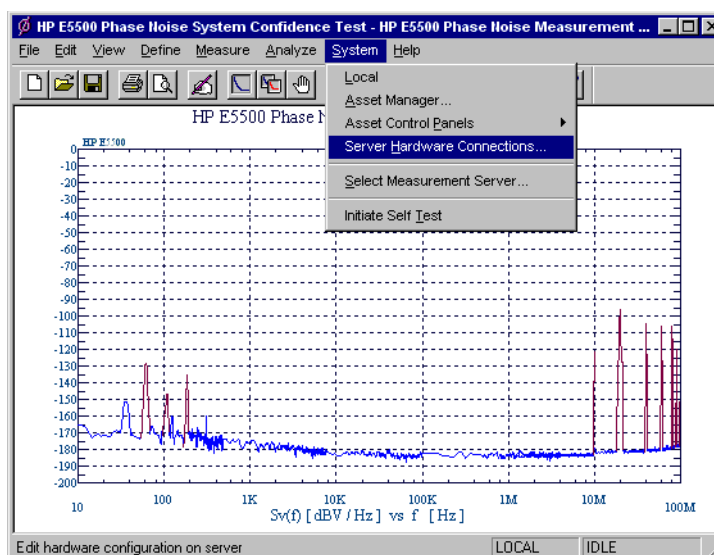

Figure 5-9 Navigate to Server Hardware Connections
- 1 From the **System** menu, choose **Server Hardware Connections**. See Figure 5-9.